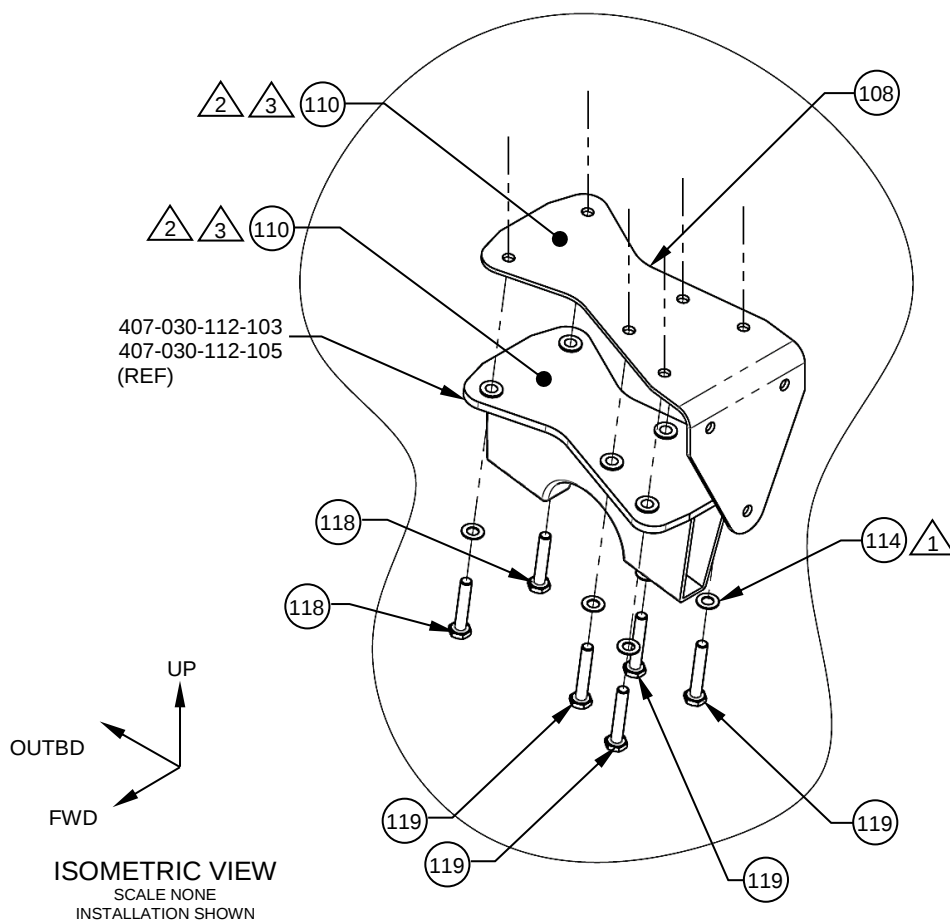

Figure 9
3. To replace 2X AFT Mounting Bracket, (Item 108), apply Sealant, Corrosion Inhibitive, (Item 110), to the faying surfaces per MIL-PRF-81733. Reference Figure 9.